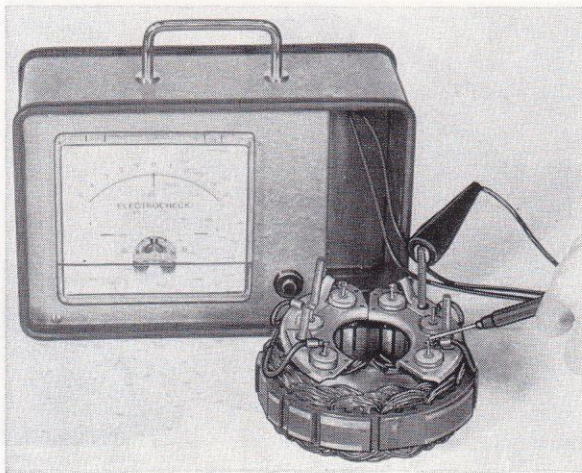

Fig. 30. Checking the diodes
**N.B. Only a 12 V, 2—5 W test lamp may be used; 110 or 220 V, D.C. or A.C. lamps may NOT be used. This applies to all the alternator components.** Check the diodes with a diode tester, see Fig. 30. If any of the rectified diodes is faulty, the entire diode holder (with three diodes) must be replaced.